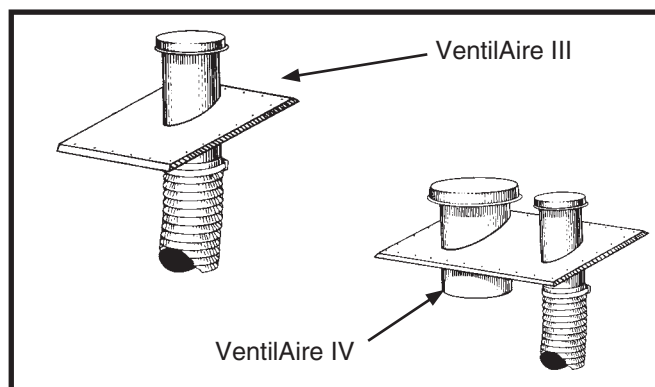

Figure 2. VentilAire III & IV
The Ventilaire air quality packages are available to meet the ventilation requirements as outlined in H.U.D. Standard Part 3280.103 (b) (2). These packages introduce outdoor air into the living space during furnace blower operation. The VentilAire IV also serves to exhaust moist and/or hot air from the attic space. See Figure 2 for typical installation. Complete installation instructions are supplied with each air quality package.